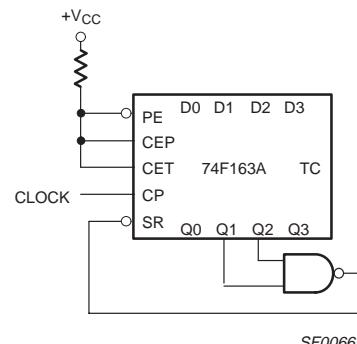
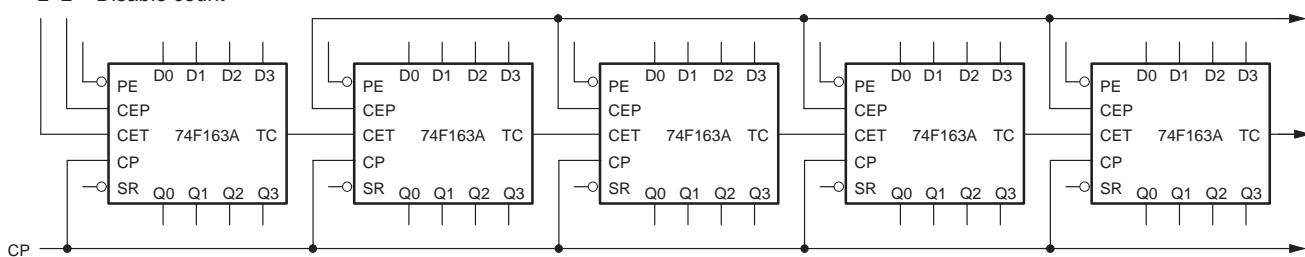

Figure 1. Maximum count modifying scheme
Figure 2. Synchronous multistage counting scheme
A Low level at the Master Reset (\overline{MR}) input sets all the four outputs of the flip-flops (Q0 – Q3) in 74F161A to Low levels, regardless of the levels at CP, \overline{PE} , CET and CEP inputs (thus providing an asynchronous clear function). For the 74F163A, the clear function is synchronous. A Low level at the Synchronous Reset (\overline{SR}) input sets all four outputs of the flip-flops (Q0 – Q3) to Low levels after the next positive-going transition on the clock (CP) input (provided that the setup and hold time requirements for SR are met). This action occurs regardless of the levels at \overline{PE} , CET, and CEP inputs. The synchronous reset feature enables the designer to modify the maximum count with only one external NAND gate (see Figure 1). The carry look-ahead simplifies serial cascading of the counters. Both Count Enable (CEP and CET) inputs must be High to count. The CET input is fed forward to enable the TC output. The TC output thus enabled will produce a High output pulse of a duration approximately equal to the High level output of Q0. This pulse can be used to enable the next cascaded stage (see Figure 2). The TC output is subjected to decoding spikes due to internal race conditions. Therefore, it is not recommended for use as clock or asynchronous reset for flip-flops, registers, or counters.